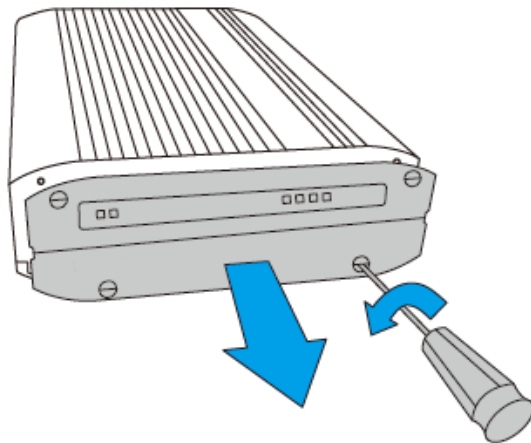

Figure 3-3: Front Panel Removal
Step 1: Remove all four screws from the front panel (Figure 3-3).